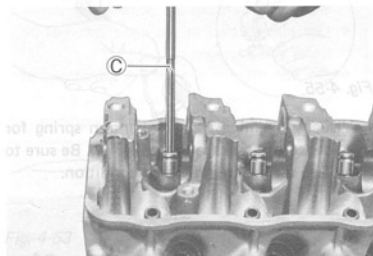

Fig. 4-61
- Check all valve guides in place for I.D. and, if the I.D. reading compared with the stem diameter reading indicates too small a radial clearance, ream the guide I.D. with the reamer (C) (09916-34520), as shown in Fig. 4-61.